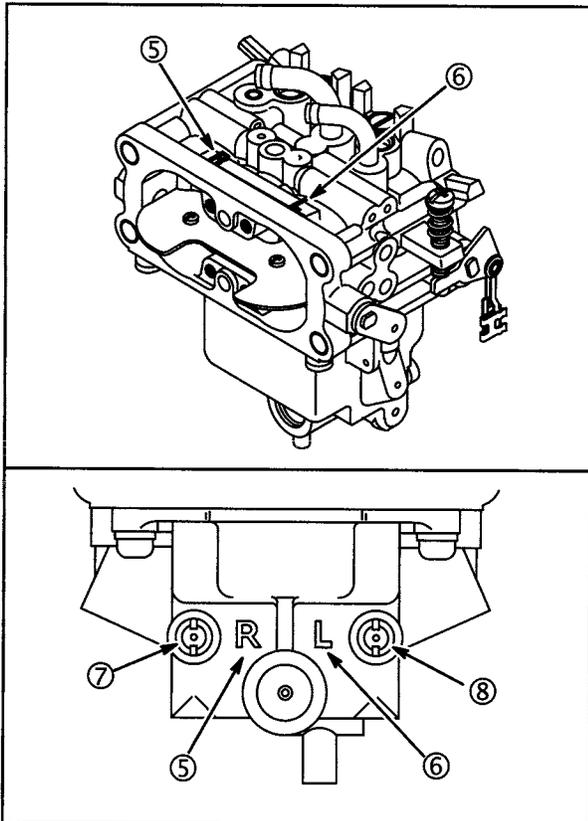

Fig. 61
3. Remove fixed main jets (7, 8), **Fig. 61**.
The carburetor is marked in the upper body near the choke plate and the lower body near the main jet plugs. See **Fig. 61**.